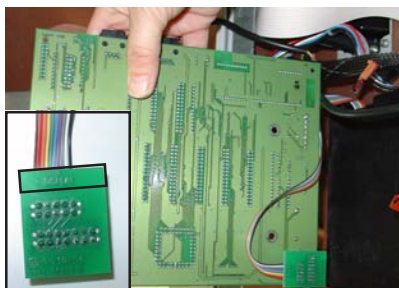
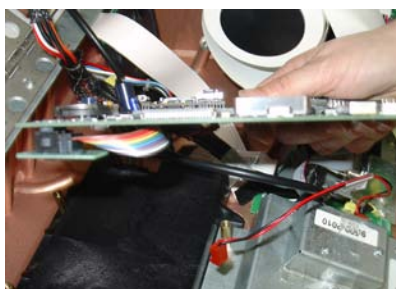

Figure 13. Adapter cable connected to Main board.
Figure 14. Ensure connector is orientated correctly.
14. Connect the other end of the adapter cable to the Main board assembly (Figure 13). The adapter cable end has a marking that says “DISPLAY” with an arrow above it (Insert). Orient the connector so that when affixed to the main board, the “DISPLAY” marking is towards the LCD display when the Main board is attached (Figure 14).